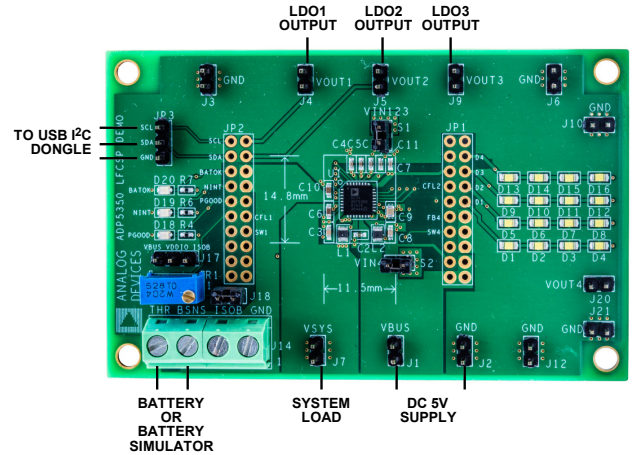

Figure 16. ADP5350-EVALZ LFCSP Board Connection Diagram
2. Connect a 5 V power supply between the VBUS and GND screw terminals or connect a charged battery between ISOB and GND (see Figure 16).